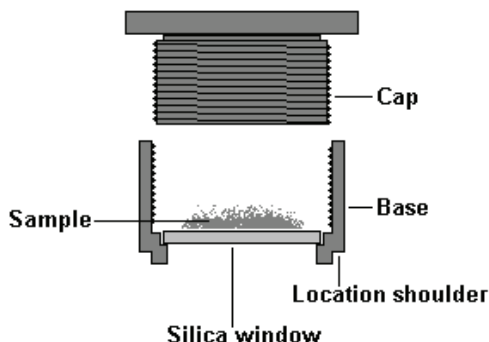

Figure 38 The powder accessory
1. Unscrew the base plate from the Powder holder and add the sample onto the silica window, as shown in Figure 38.